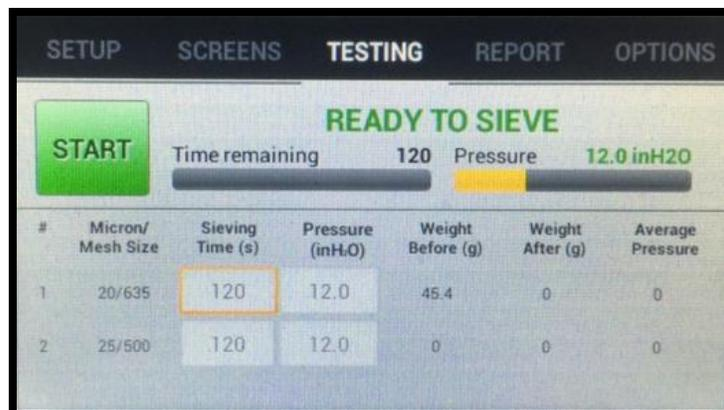

Figure 46
19. Press the **NEXT** button to advance the software to the next “READY TO SIEVE” screen. (See Figure 46)
20. Press the **START** button to start the sieving. The vacuum will power up and the wand will begin to rotate once the vacuum pressure reaches 2 inches of water column. Additionally the “Time Remaining” and “Pressure” will be displayed by a slide bar. (See Figure 46)
25. Once the sample has been transferred, press the **NEXT** button to advance the software to the “READY TO SIEVE” window. Press the **START** button to start the sieving process. (See Figure 46)